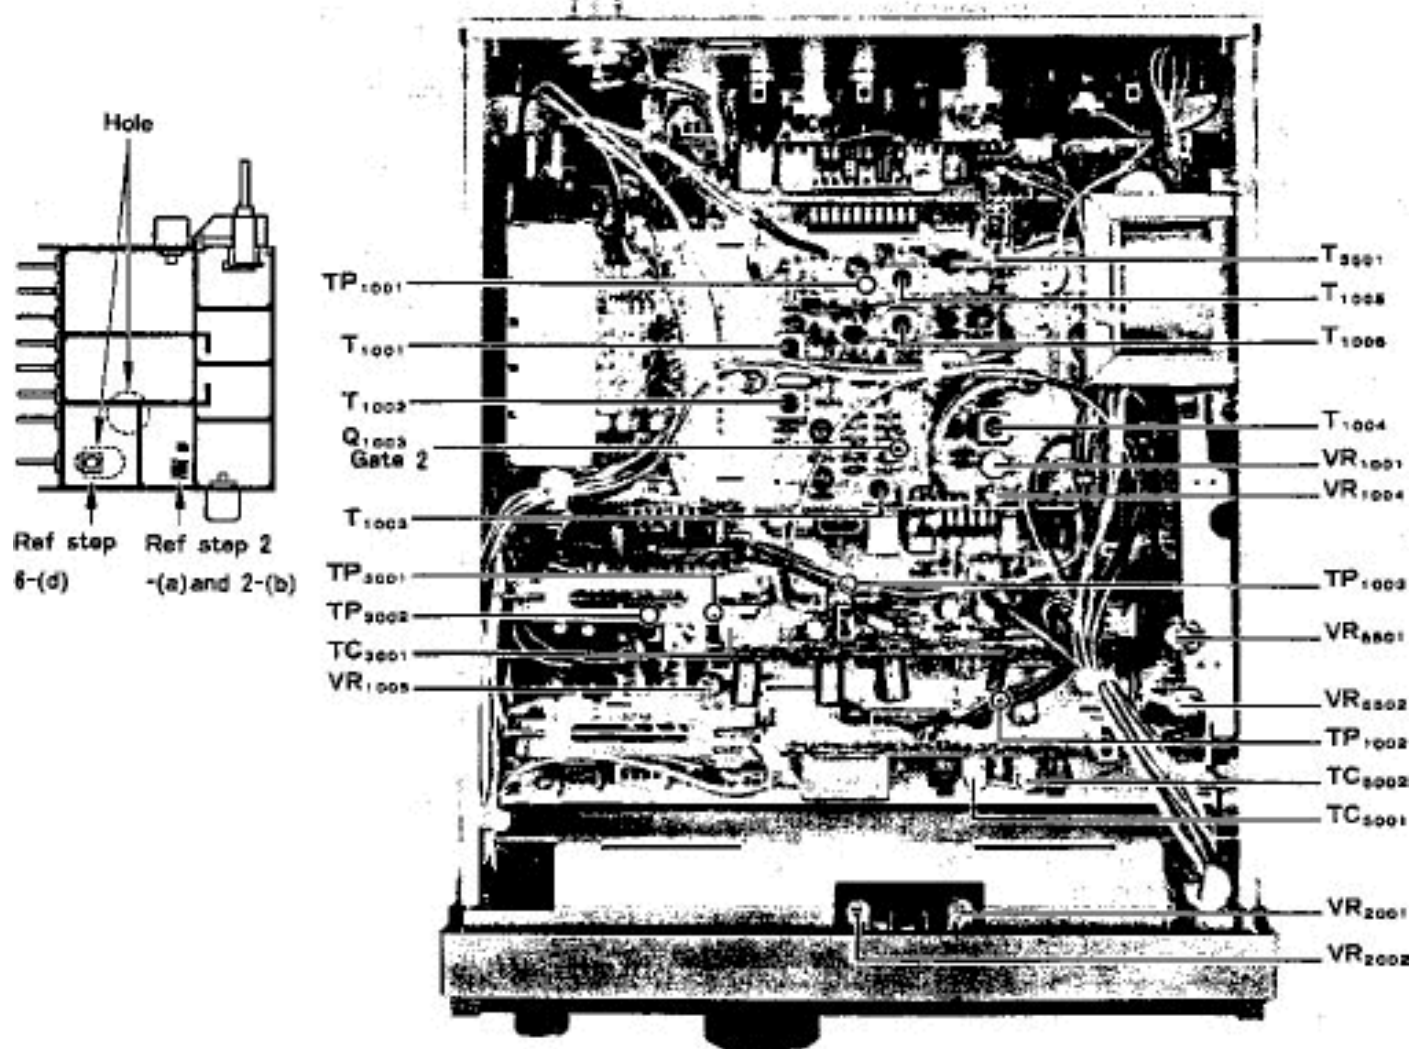

Figure 2
Tune the receiver for 80.000.0 on the display, and connect the RF voltmeter to Gate 2 of Q1003 on the Main Unit, shown in Figure 2. Adjust T1006 and then T1005 for peak RF voltage on the meter (approx 1.15  $\pm 0.3$  Vrms).
- (d) If the front end module is being replaced, adjust the transformers indicated in Figure 2 for peak on the AF millivoltmeter.